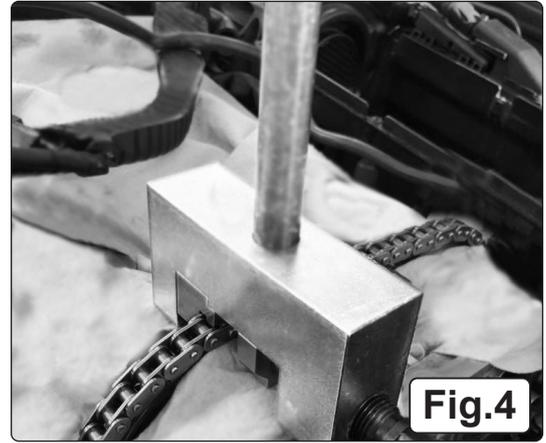

Fig.4
- 5.2.4. Release the 13mm Hex bolt, after ensuring the link end plate is pressed on correctly. Rotate the jaw press so the grooved section is positioned over the link pin. Tighten the 13mm Hex bolt to swage over the end of the link pin, repeat for the second link pin, see fig.4.
- 5.2.6. Release the 13mm Hex bolt, after ensuring the link end plate is pressed on correctly. Rotate the jaw press so the grooved section is positioned over the link pin. Tighten the 13mm Hex bolt to swage over the end of the link pin, repeat for the second link pin, see fig.4.